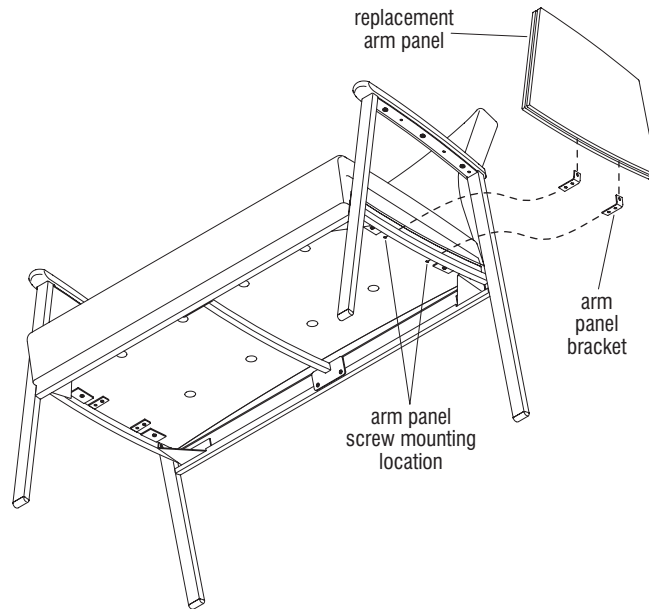

Figure 6
1. To replace or install a new arm panel, first locate the bottom of the replacement panel and slide the short end of the two arm panel brackets into the slot between the inner and outer arm panel as illustrated (Figure 6).
2. Position the top of the arm up under the arm frame, then slide the brackets at the bottom of the arm panel between the seat frame and seat. Seat screws were loosened two turns in previous steps for removal and ease of this step 2. (Figure 6).